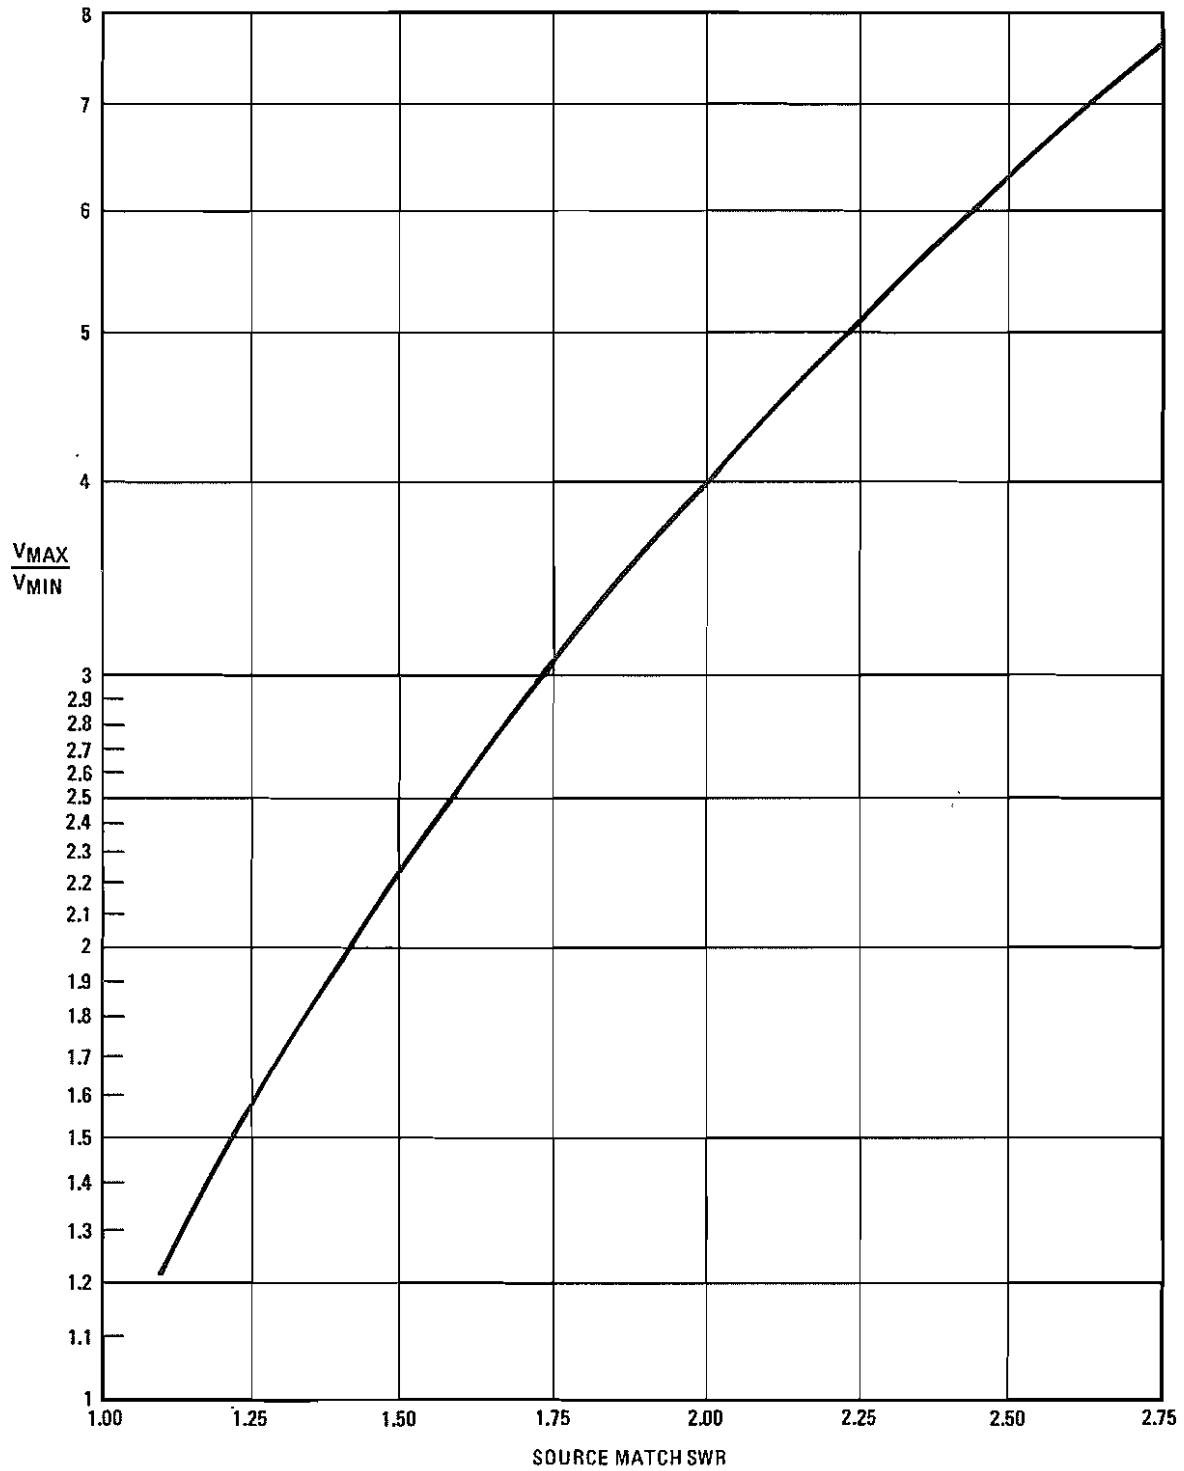

Figure 4-15. Conversion of Oscilloscope Trace to Source Match SWR
- f. Convert greatest V_{max}/V_{min} ratio noted in step e into source match SWR using Figure 4-15.